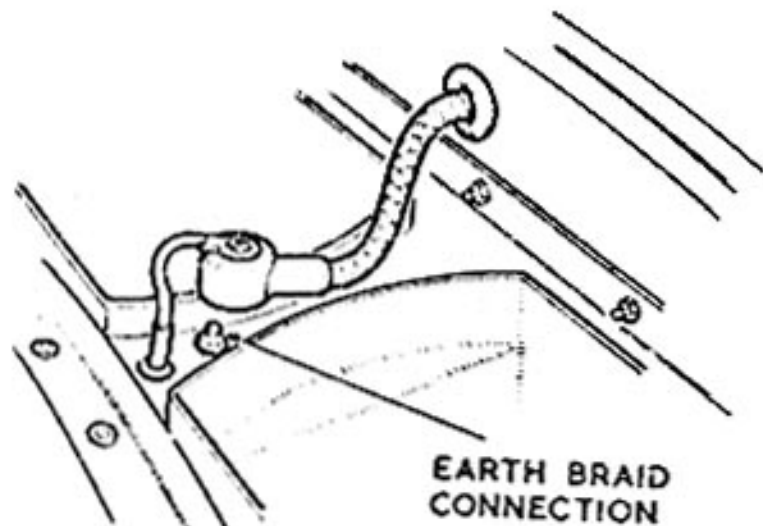

Fig. 4
Mark out and drill a $\frac{1}{4}$ " diameter grommet hole and $\frac{3}{8}$ " diameter hole in scuttle panel as shown in Fig. 4.
7. Route battery lead as shown in Fig. 4 and secure screening braid to scuttle by means of the 2BA x $\frac{1}{8}$ " screw, washer and nut provided.
7. Connect battery lead to terminal of battery as shown in Fig. 4.
REAR LOUDSPEAKER MOUNTING (Bristol 405 only) (See Fig. 4.)
1. Remove rear seat and squab. Ease back trim on rear squab shelf. Using the loudspeaker card ring as a template, mark off and drill four $\frac{5}{16}$ " diameter holes and $5\frac{1}{2}$ " diameter hole as shown in Fig. 4.